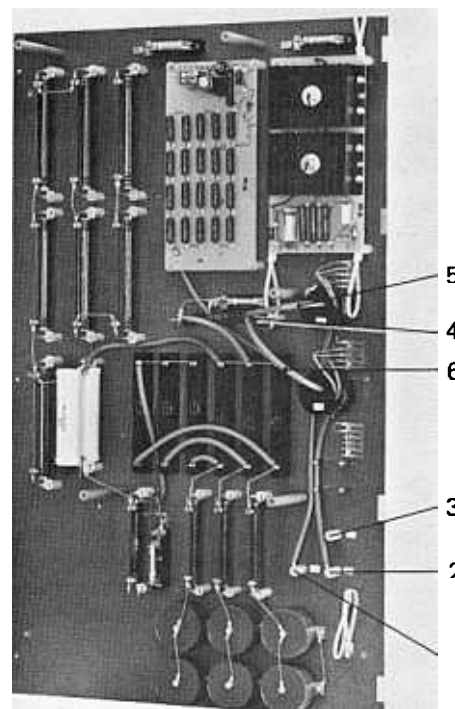

Fig. 8
- The fully insulated center conductor of the HV-cable has to be attached to the high voltage outlet 1 on the high voltage plate (see Fig. 8, item 1).
- The fully insulated center conductor of the HV-cable of source 1 is to be connected to the high voltage outlet 1 (see Fig. 8, item 1); and the one of source 2 has to be connected to the high voltage outlet 2 (see Fig. 8, item 2) on the high voltage plate.
- Disconnect the connection lines (see Fig. 8, Items 5 and 6) from the HV connection (see Fig. 8, Item 4) through the transducers to the HV-connections 1 and 2.
- from the high voltage point, on the 50 Ω resistor (Fig. 8, item 6) to the common high voltage outlet HVO on the EHU 103.
- From the high voltage outlet HV1 on the EHU 103 through the transducer T5 to the high voltage connection 1 (Fig. 8, item 1). From the high voltage outlets HV2 and HV3, resp., on the EHU 103 through the transducers T6 and T7, resp., to the high voltage connections 2 and 3, resp. (see Fig. 8, items 1.2 and 3).
- Conduct the fully insulated center conductors of the HV-cables to the high voltage connectors and connect them to the corresponding sources (see Fig. 8, items 1,2 and 3).